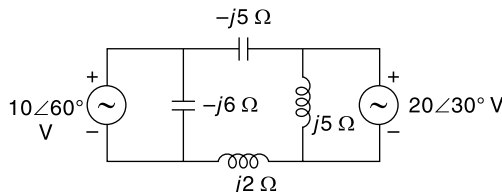

Fig. 6.1 Circuit of Ex.6.1
6.1 Find the current through inductive reactance ($j2\ \Omega$) in the circuit of Fig. 6.1 using the superposition theorem.
Considering $10\angle 60^\circ$ V source acting alone in the circuit and removing the other source as shown in Fig. 6.1(a), the current through the ($j2\ \Omega$) reactor is